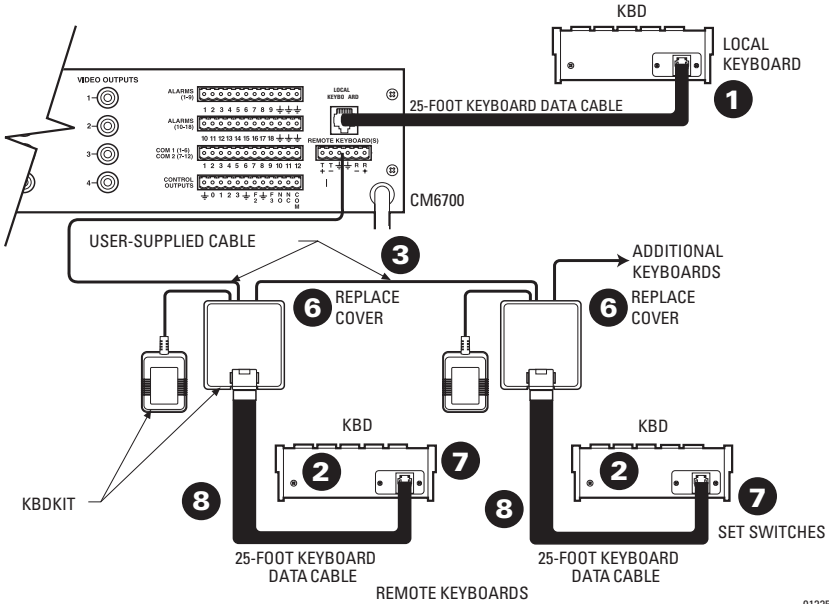

Figure 1. Wiring Diagram for Local/Remote Keyboards
- 1 Use the data cable that is supplied with the keyboard. Plug one end of the cable into the RJ-45 connector on the rear of the keyboard and the other end into the LOCAL KEYBOARD port on the SCU (refer to Figure 1). Set the keyboard switches according to the instructions in the *Switch Settings* section. Go to step 2 to install remote keyboards, or go to step 10.
Refer to Figures 1 and 2 for the following steps.